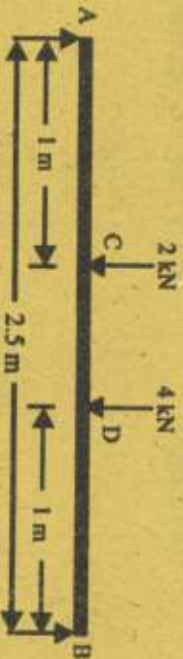

Fig.13.13
5. (a) A simply supported beam AB of span 2.5 m is carrying two point loads as shown in fig. 13.13. Draw the SFD and BMD for the beam. Show all the calculations. 6